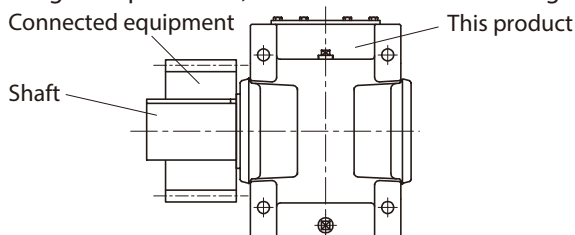
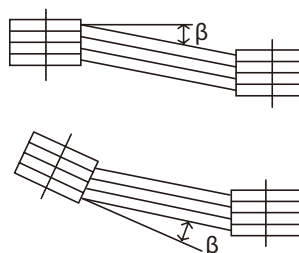

Fig. 5-3
Fig. 5-4
The alignment accuracy (A, B, X) in figure 5-4 should be no more than that shown in Table 5-1.
(2) When Using Chains, Sprockets, or Gears
- (See Figure 5-3)
(3) When Using a V Belt
- The parallelism, eccentricity β between the two pulleys should be within 20'. (See figure 5-4)